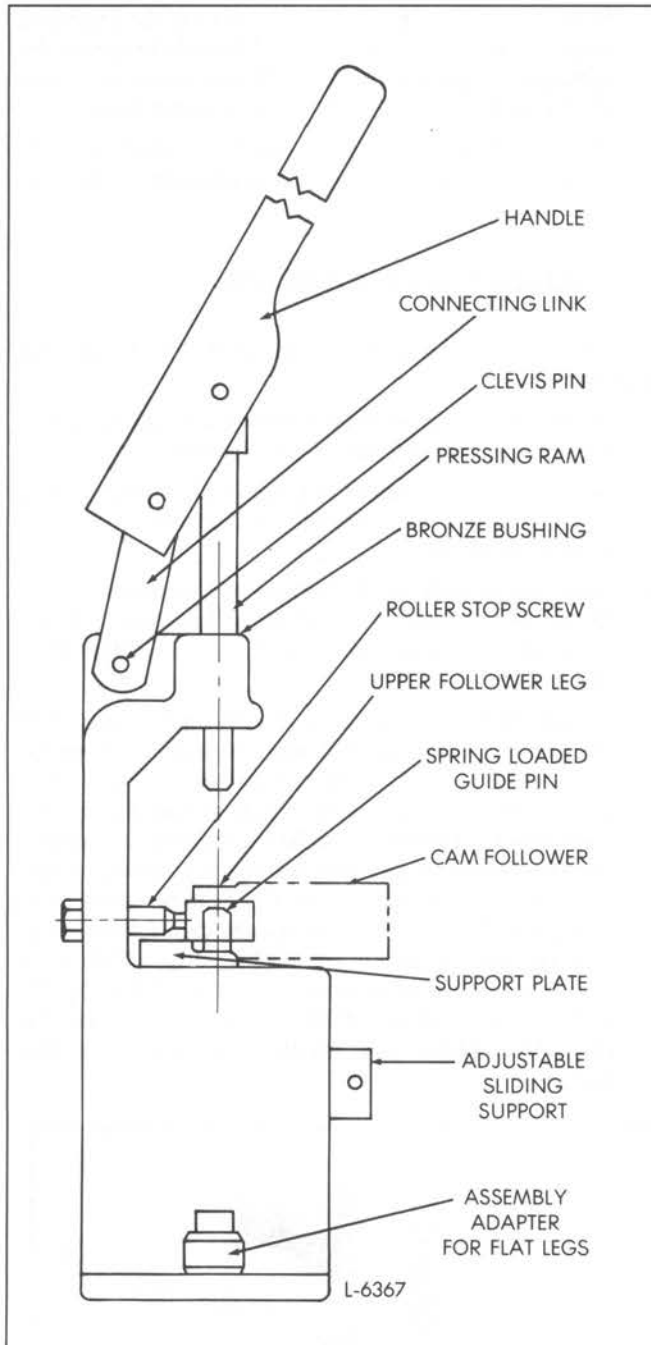

Fig. 7 – Removing or Installing Cam Follower Roller using Tool J 33421
1. Pull the adjustable sliding support out against its stop (Fig. 7).